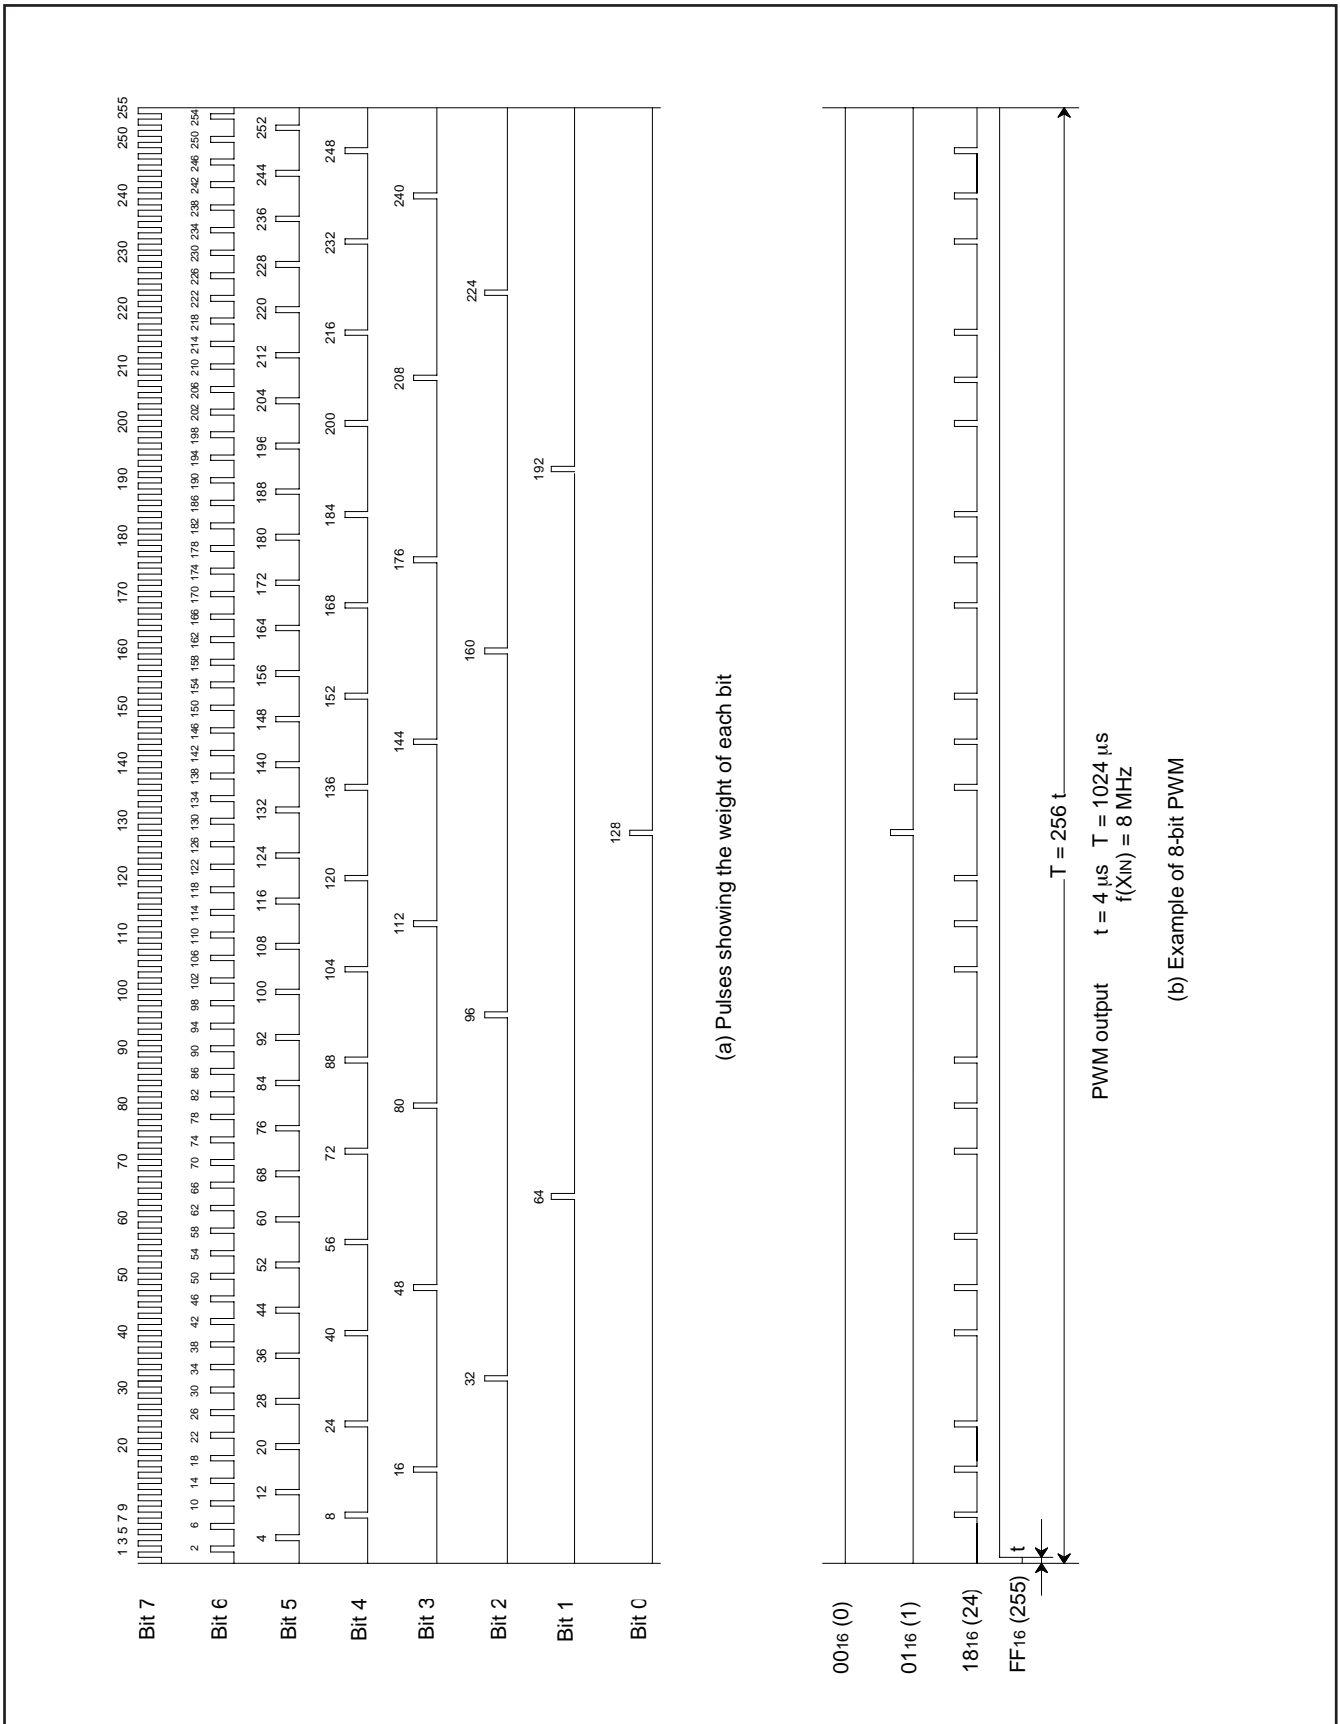

Fig. 8.7.2 PWM Timing
Figure 8.7.2 shows the 8-bit PWM timing. One cycle (T) is composed of 256 (2⁸) segments. 8 kinds of pulses, relative to the weight of each bit (bits 0 to 7), are output inside the circuit during 1 cycle. Refer to Figure 8.7.2 (a). The 8-bit PWM outputs a waveform which is the logical sum (OR) of pulses corresponding to the contents of bits 0 to 7 of the 8-bit PWM register. Several examples are shown in Figure 8.7.2 (b). 256 kinds of output (HIGH area: 0/256 to 255/256) are selected by changing the contents of the PWM register. An entirely HIGH selection cannot be output, i.e. 256/256.